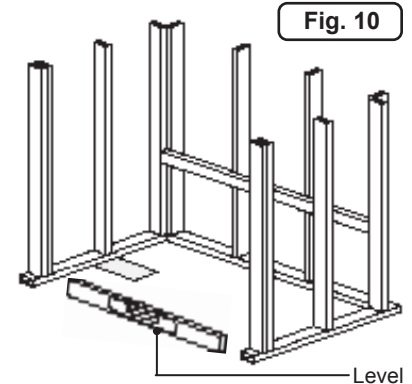

Fig. 10
1. Make sure framed-in alcove is of proper size per Jacuzzi dimensions, square, and plumb; check floor for levelness (Figure 10). Rough-in should be kept to a minimum until the unit is on the job site. Measurements may vary +0 or -1/4" from original specifications.
2. Place the tub in the alcove with the front skirt firmly on the floor. The bathtub must be set level. To check, use a level on top of the ledges on both ends of tub and on top of dam (Figure 10).